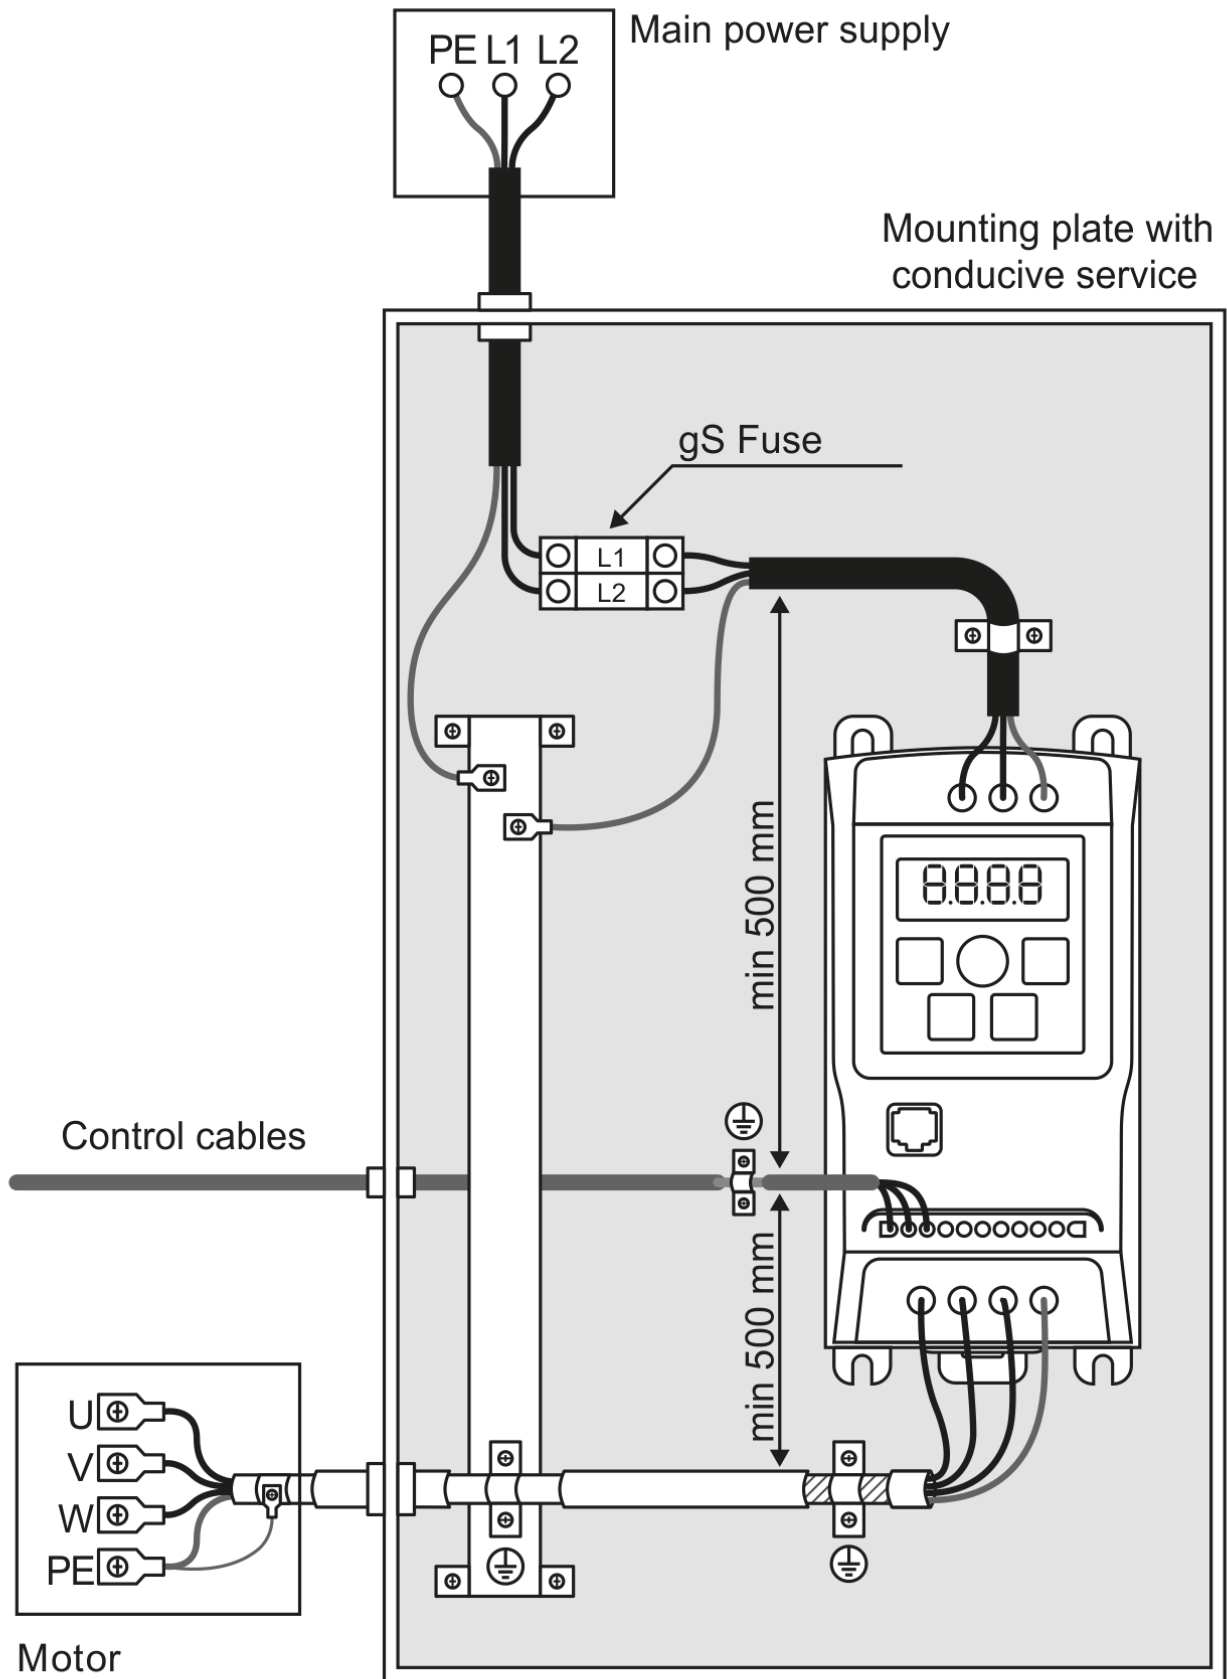

Figure 3.3.4 – Best practices for electrical panel installation.
- Figure 3.3.4 represents an installation that follows guidelines according to best practices for electromagnetic compatibility.